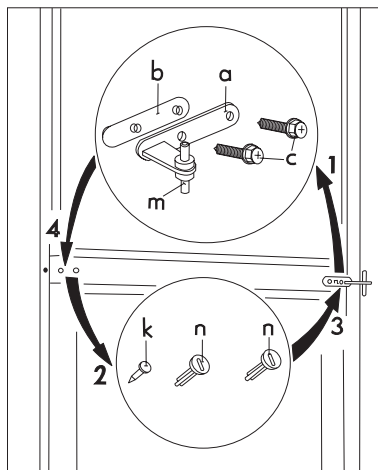

Fig.3
spacer (b) under the door mount is also removed (Fig. 3).
- Remove the left-hand cover pin of the double door mount (3 pieces, n, k) and move to the other side (Fig. 3).
- Fit the pin of the double door mount (m) into the left-hand hole of the freezer door (Fig. 3).